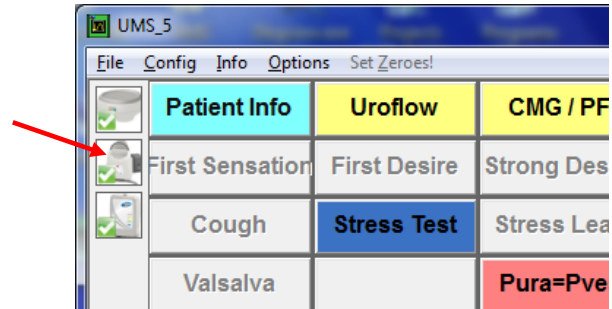

Figure 108: Access Goby Device Manager – Goby™ Hub
2. Start the UDS120 Goby software and double-click the **Goby™ Hub** icon in the main window to open the *Goby Device Manager* window (Figure 108).
3. Start the UDS120 Goby software and double-click the **Goby™ Hub** icon in the main window to open the *Goby Device Manager* window (Figure 108).
4. Start the UDS120 Goby software and double-click the **Goby™ Hub** icon in the main window to open the *Goby Device Manager* window (Figure 108).